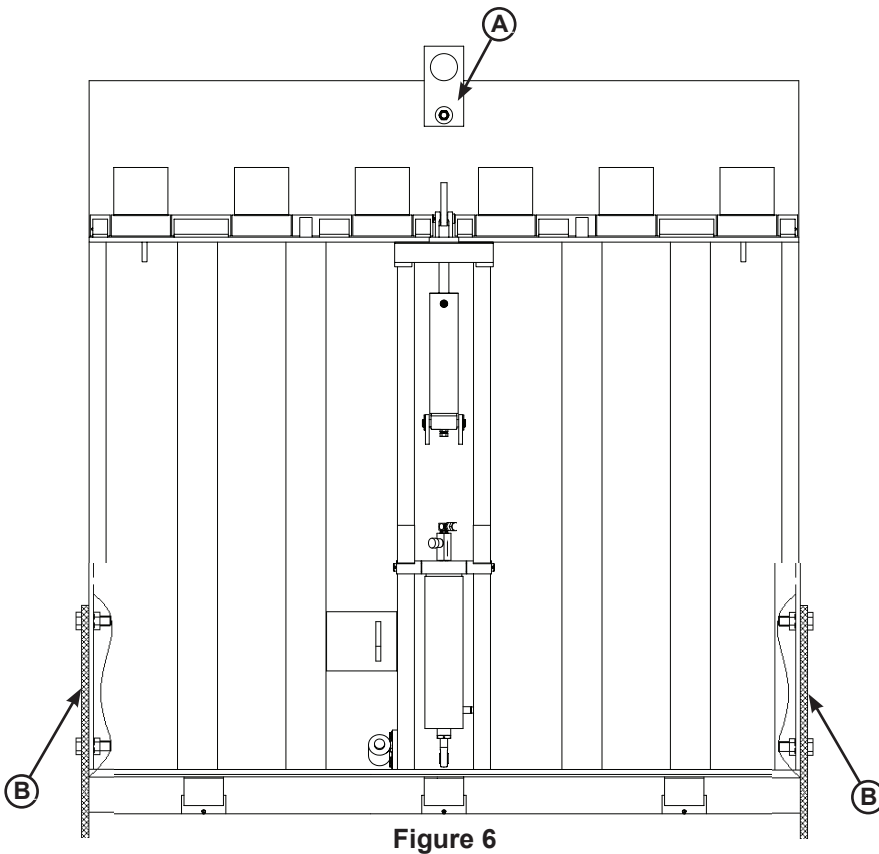

Figure 6
4. Ensure maintenance props (B) are in the lowered position and tightly secured (see Figures 6 and 7).